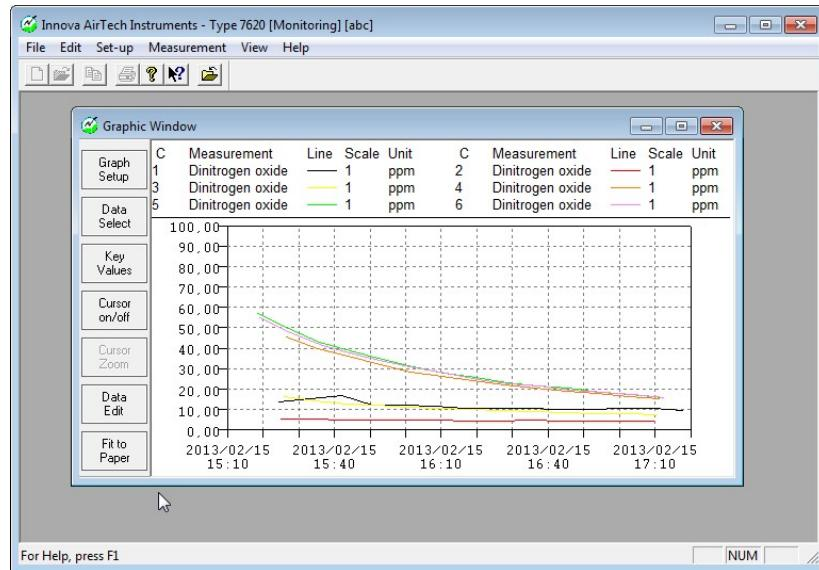

Figure 50. Graphic Window.
- You can see the measurements in *Graphic Window*. Select *View* menu and click on *Graphic Window* (*View* → *Graphic Window*), see Figure 49b. The *Graphic Window* should appear on the screen, see Figure 50. On the left side of the window there are buttons for setting up the graph, namely *Graph Setup* and *Data Select*.